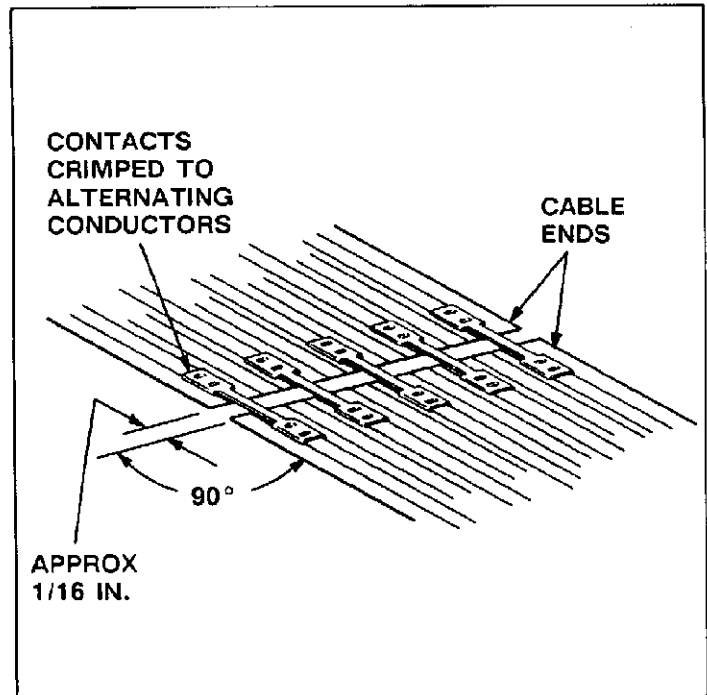

Fig. 6
4. Lower the contact guide and crimp another contact to the cable. Repeat this procedure until each alternating conductor is crimped, as shown in Figure 6.
11. Repeat Steps 8 through 10 until alternating conductors are crimped as shown in Figure 6.